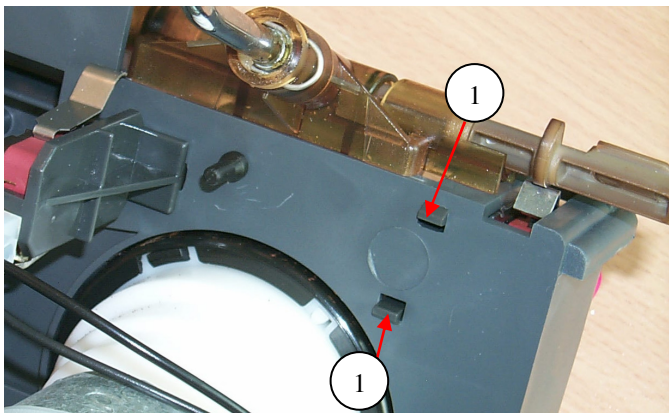

Fig. 14
- a) Remove the HWD switch by pressing together the two fastening tabs (1) on the underside of the mounting plate (see Fig. 14).